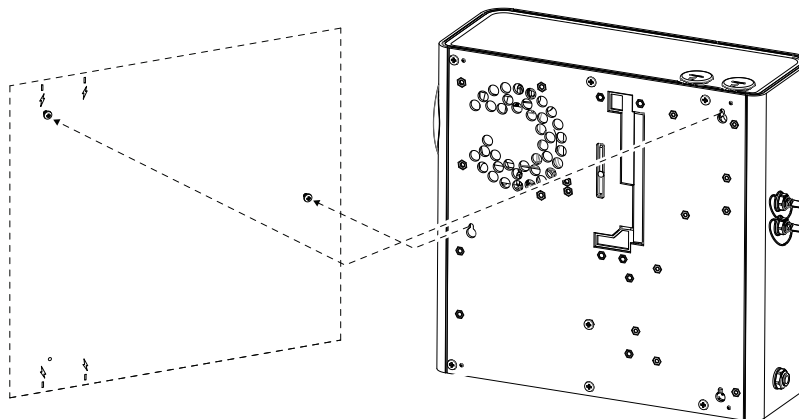

Figure 4-13: Mount the detector
8. Mount the detector onto the two screws (Figure 4-13).